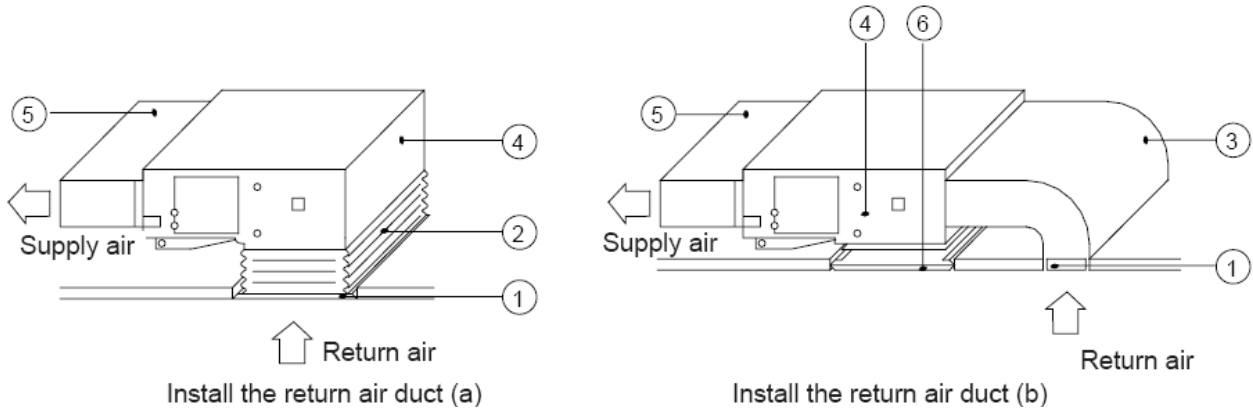

Figure 3-1-22
(3) If the bottom return air is desired, just change the place of the rectangular flange and the return air cover plate.
- (4) Connect one end of the return air duct to the return air outlet of the unit by rivets and the other to the return air louver. For the sake of the convenience to freely adjust the height, a cutting of canvas duct will be helpful, which can be reinforced and folded by 8# iron wire
- (5) More noise is likely to be produced in the bottom return air mode than the backward return air mode, so it is suggested to install a silencer and a static pressure box to minimize the noise.
- (6) The installation method can be chosen with considering the conditions of the building and maintenance etc., as shown in Figure 3-1-22.